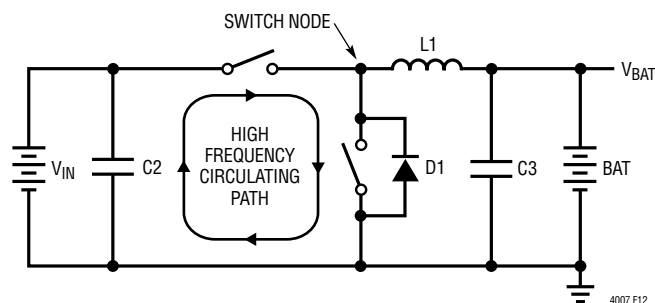

Figure 12. High Speed Switching Path
For maximum efficiency, the switch node rise and fall times should be minimized. To prevent magnetic and electrical field radiation and high frequency resonant problems, proper layout of the components connected to the IC is essential (see Figure 12). Here is a PCB layout priority list for proper layout. Layout the PCB using this specific order.
12. For best current programming accuracy provide a Kelvin connection from R_{SENSE} to CSP and BAT. See Figure 12 as an example.